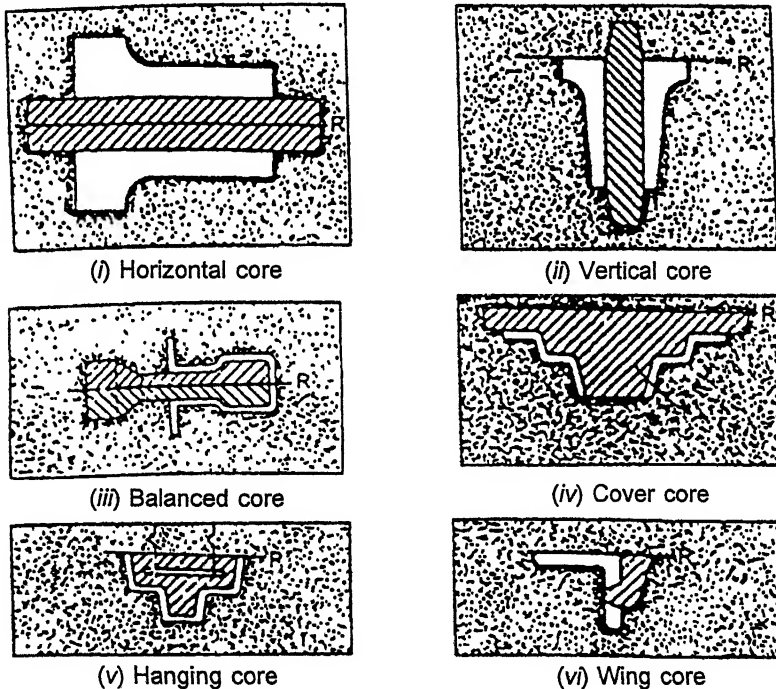

Fig. 8.17. Types of cores.
**(i) Horizontal core :** Refer to Fig. 8.17 (i) :
(ii) **Vertical core** : Refer to Fig. 8.17 (ii) :
(iii) **Balanced core** : Refer to Fig. 8.17 (iii) :
(iv), (v) **Cover core and hanging core** : Refer to Fig. 8.17 (iv) and (v) :
- The cover core, as shown in Fig. 8.17 (iv), is used when the entire pattern is rammed in the drag and the core is required to be supported from the top of the mould. This type of core usually requires a hole through the upper part to permit the metal to reach the mould.
- If the core hangs from the cope and does not have any support at the bottom in the drag, then it is called hanging core [Fig. 8.17 (v)].
(vi) **Wing core** : Refer to Fig. 8.17 (vi) :